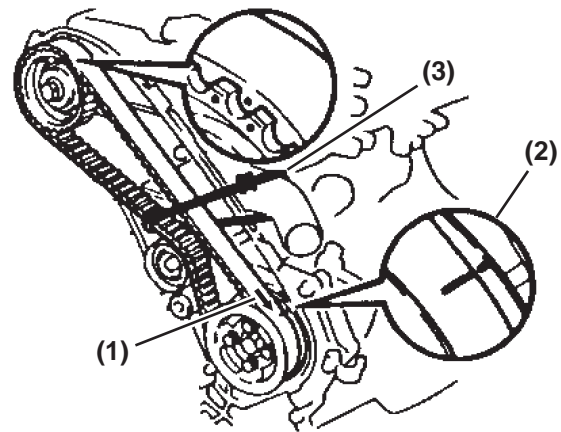

Figure 5-159
- Draw an arrow mark (**Figure 5-159, (1)**) on the timing belt, indicating the operation direction (engine revolution direction) and then match marks (**Figure 5-159, (2)**) both on the timing pulley and timing belt.
- (a) Secure the belt by string **(Figure 5-159, (3))** so that the engagement between the timing pulley and timing belt will not be disconnected.